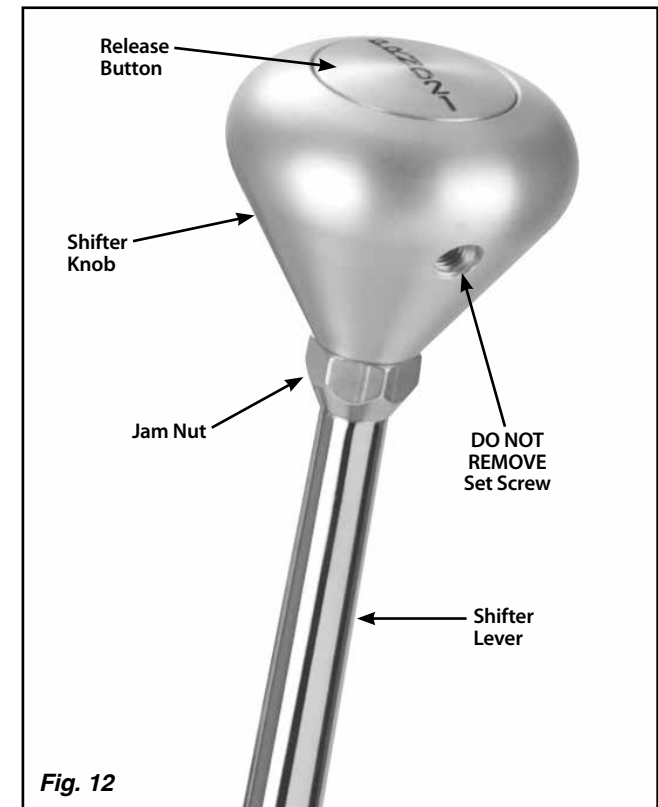

Fig. 12
- Step 2:** Loosen the jam nut below the shifter knob. **DO NOT** loosen or remove the set screw that is in the knob. **Fig. 12**